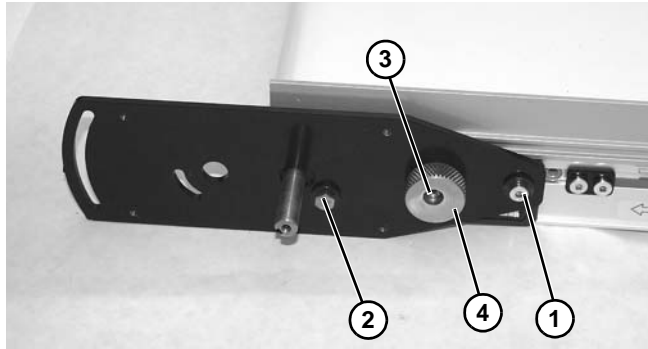

Figure 78
- Loosen screws (**Figure 78, item 1, 2, and 3**) from both sides of conveyor. Turn cam knob (**Figure 78, item 4**) to remove belt tension.